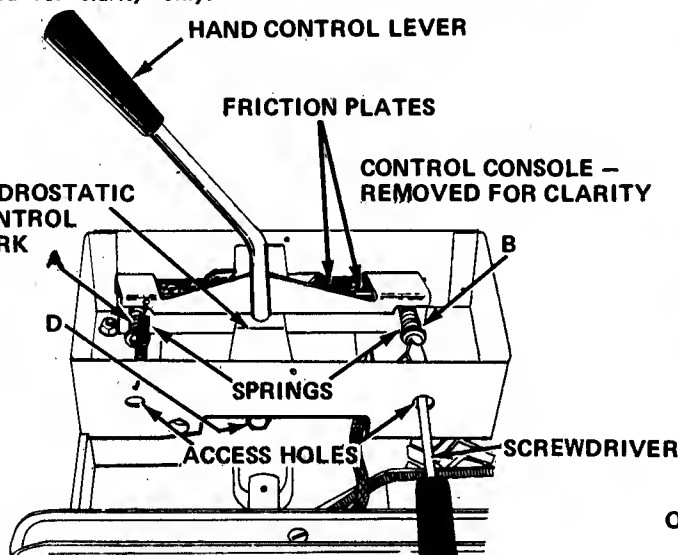

FIGURE 19
3. With the control fork, Figure 19, move the cam, Figure 18, until the cam follower roller is lined up with the cam dwell center mark. **DO NOT** adjust the hydrostatic control fork, Figure 19, if the control lever is not in the neutral slot of the console. This is the final adjustment to be made.
5. Loosen pintle lever clamp bolt A, Figure 18, a sufficient amount to allow the pintle lever to move freely. Move the hydrostatic control lever, Figure 19, in the park-start position, start the engine and run at idle. Return the control lever to the neutral slot in the control console.
8. Check the hydrostatic control lever. If the neutralizer pedal does not automatically shift the control lever to the neutral position from either "forward" or "reverse" when the pedal is fully depressed, loosen hydrostatic control fork adjustment bolt D, Figure 19. Move the fork so that it aligns with the neutral slot in the control console. Securely tighten bolt D.
The hydrostatic friction plates, shown in Figure 19, must be adjusted so the control lever moves through the "forward" and "reverse" modes with a minimum of force. However, there must be sufficient spring pressure on the friction plates so that, under normal operating conditions, the control lever will remain at any selected setting.
If the tractor has a tendency to slow down or speed up without touching the control lever, it will be necessary to increase the spring pressure on the friction plates by tightening the screws at A and B, Figure 19. Access to these screws can be gained by raising the rear deck of the tractor and inserting a screw driver through the access holes as shown.
NOTE: The control console, see Figure 19, has been removed for clarity only.